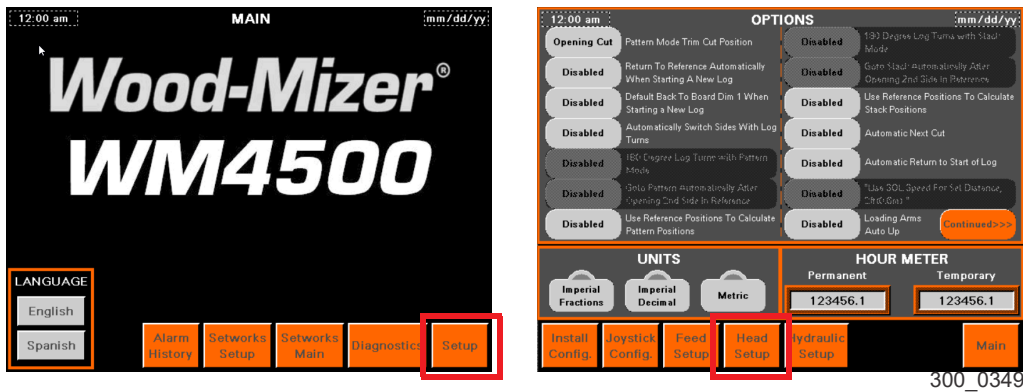

FIG. 4-27
1. From the Main screen press the Setup button. (See Figure 4-27.)
2. On the Setup screen press the Head Setup button. (See Figure 4-27.)